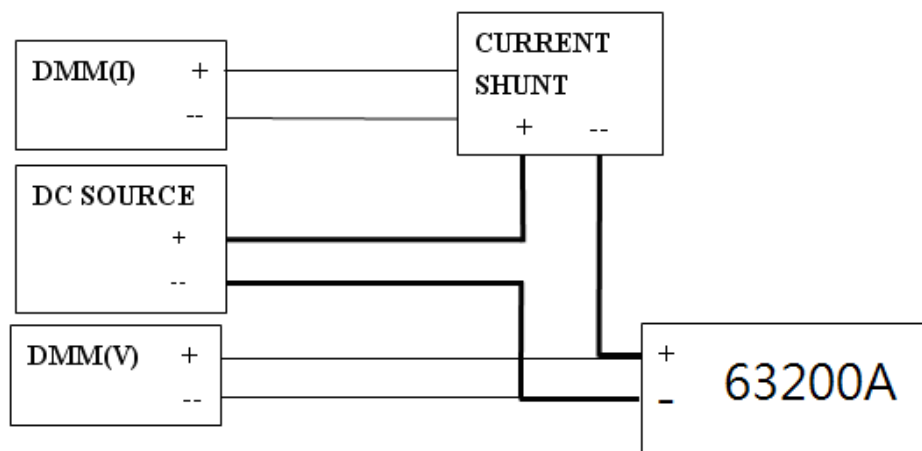

Figure 6-1
Connect the Load, DC Source, DMM, and Current Shunt as shown in Figure 6-1. Use DMM (I) to measure the voltage that passes through the shunt resistor measurement port, and get the Load current.
- A. Connect the Load, DC Source, DMM, and Current Shunt as shown in Figure 6-1. Use DMM (I) to measure the voltage that passes through the shunt resistor measurement port, and get the load current.
- D. Turn on the DC source and set the output voltage to 5V. Set the current limit of the DC source larger than the set current in Table 6-2. Press **LOAD** to enable the load and wait for 30 seconds. Then record the shunt current and the front panel displayed readings. The current of the load can be recorded from the current shunt = DMM (I) voltage/current shunt resistor.
- A. Connect the Load, DC source, DMM, and Current Shunt as shown in Figure 6-1. Use DMM (V) to measure the voltage passing through the Load input terminal.
- D. Wait for 30 seconds after the DC Source is outputted and record the voltage measured by DMM (V) and the Load.